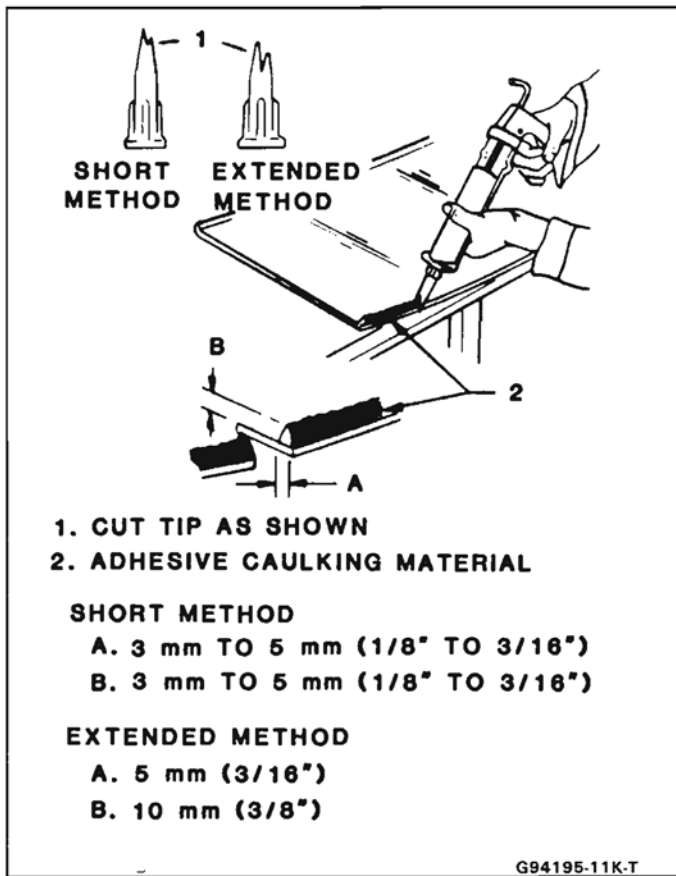

Fig. 7-Applying Adhesive Material
Prep and Sealing (Figure 7)
4. Apply smooth continuous bead of adhesive over inside edge of glass where primed (Fig. 7). Tip bead of adhesive slightly inboard.
3. Enlarge nozzle furnished in kit as shown in (Figure 7).
7. Apply a smooth continuous bead of adhesive 10 mm (3/8") high by 5 mm (3/16") wide completely around inside edge of glass (Fig. 7). Tip bead of adhesive slightly inboard.